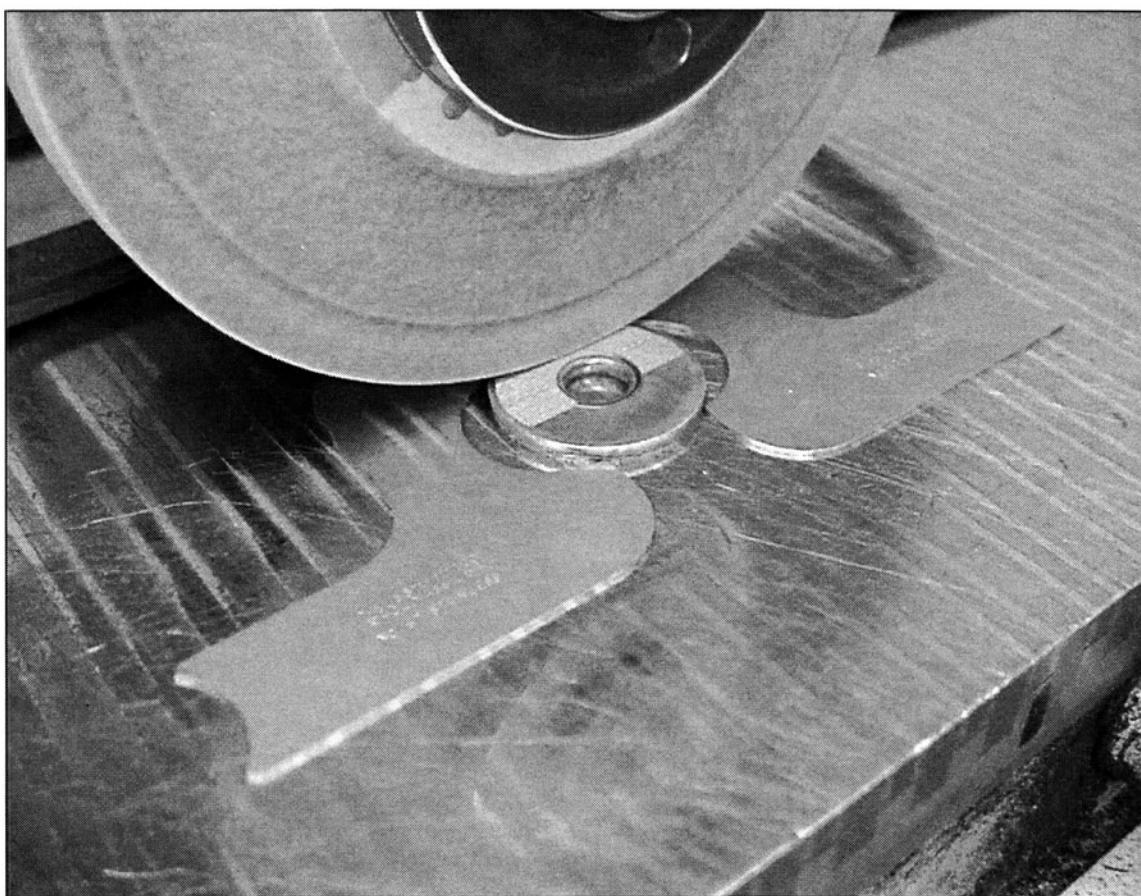

FIGURE 14-4 Thin parts can be blocked in for surface grinding using common radius gauges.
10. Use a set of radius gauges to block in small, thin parts on a magnetic chuck. (See Fig. 14-4)